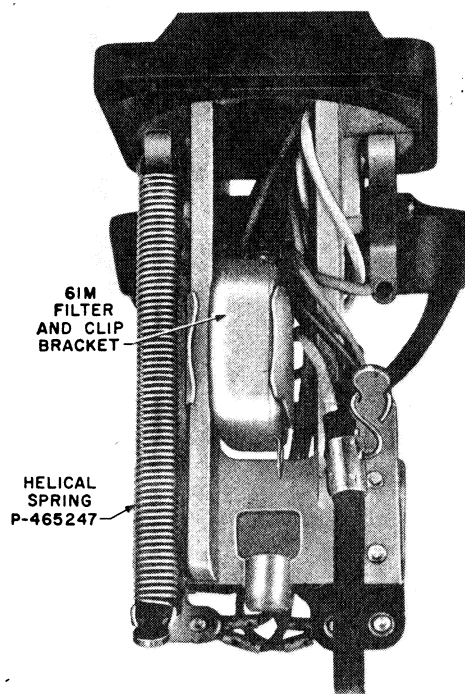
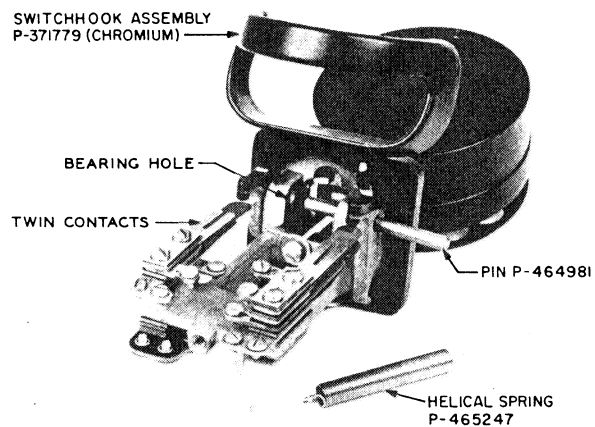

Fig. 18 — Assembly of Filter on G-type Handset Mounting
Fig. 19 — G-type Handset Mounting Switchhook Assembly
6.09 When required, the 61M filter is used with the G-type handset mounting (see Fig. 18). The helical spring should be removed before the switchhook pin is extracted (see Fig. 19).